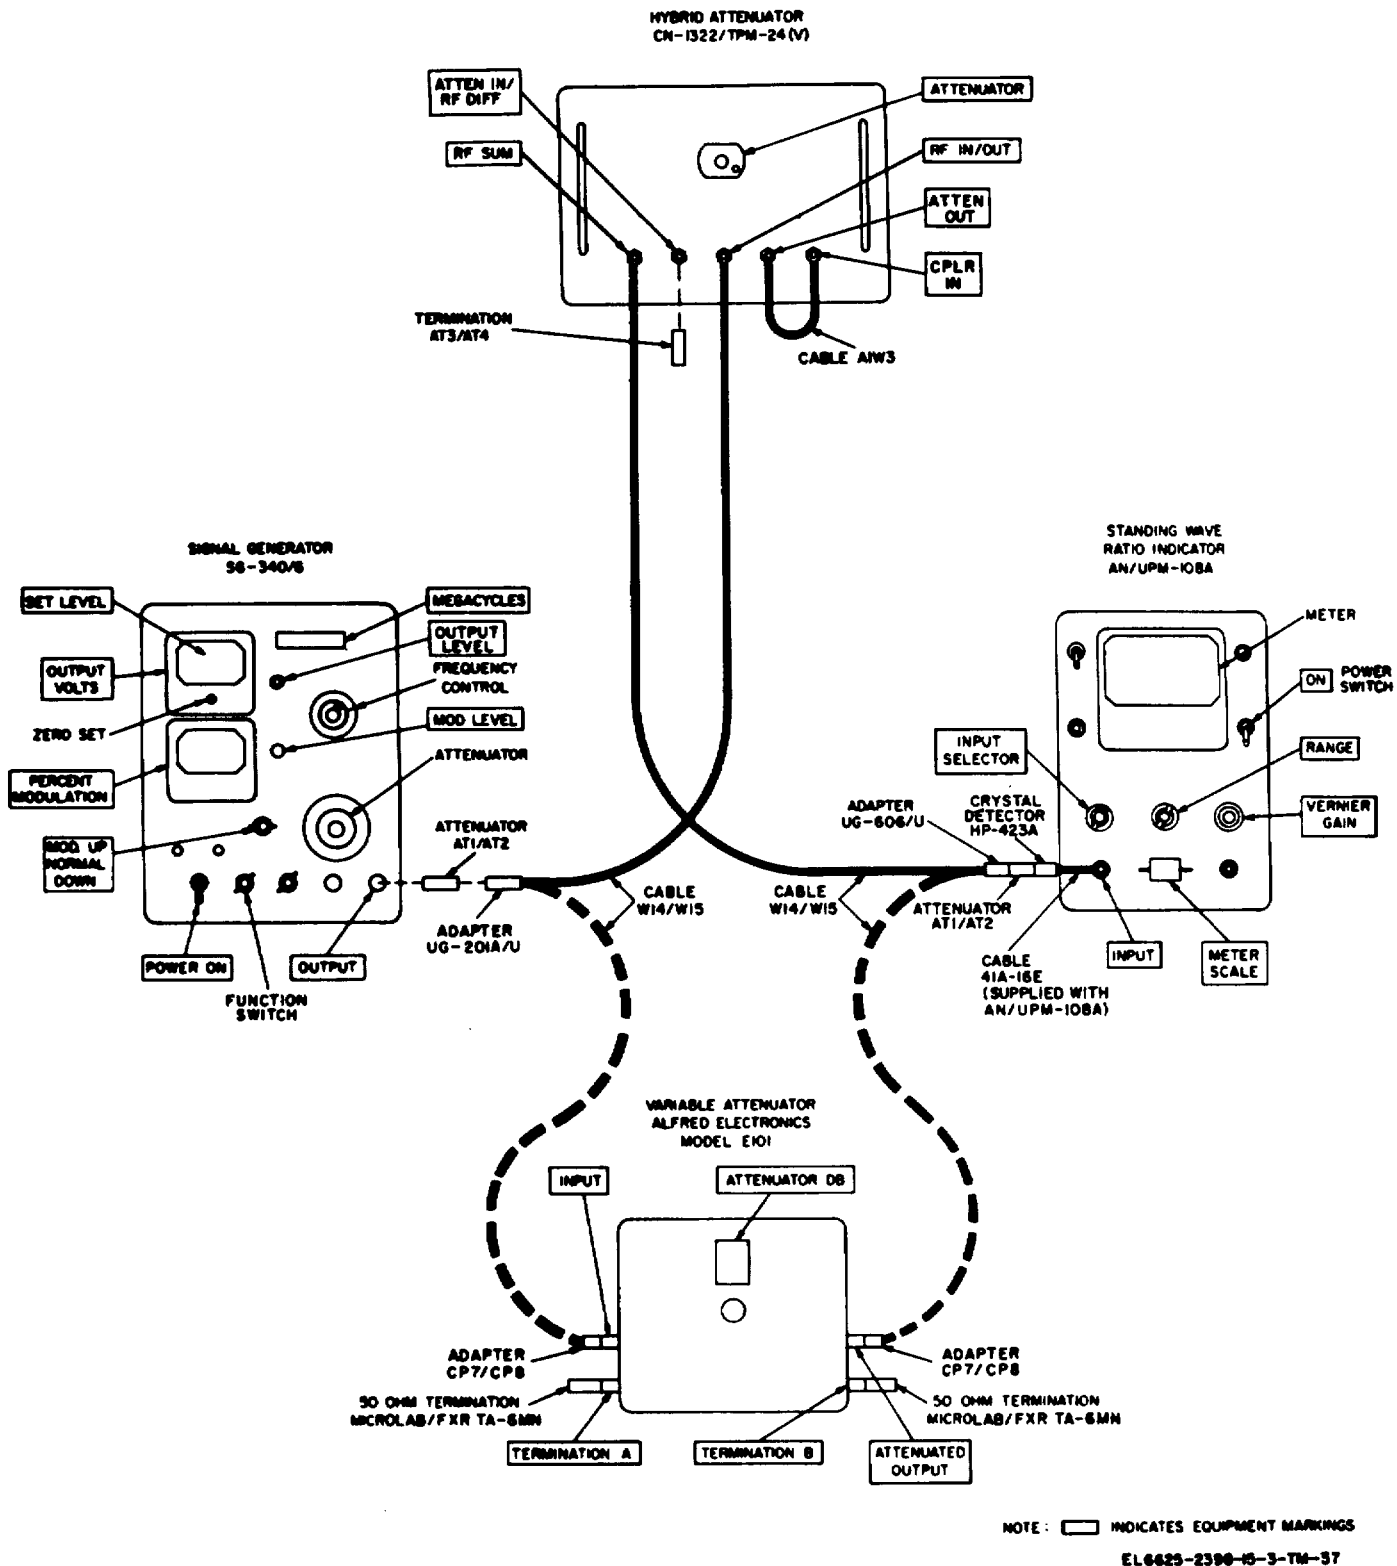

Figure 8-3. Hybrid attenuator sum channel (between RF IN/OUT and RF SUM connectors) insertion loss, test connections.
- (2) Variable Attenuator, Alfred Electronics Model E101.
- (3) Standing Wave Radio Indicator AN/UPM-108A.
- (4) Crystal Detector HP-423A.
- (5) Adapter UG-201A/U.
- (6) Adapters CP7/CP8 (2).
- (7) Fixed Attenuator AT1/AT2(2).
- (8) Termination AT3/AT4(1).
- (9) 50-ohm Terminations (2), Microlab/FXR TA-6MN.
- (10) Cables W14/W15 (2).
- (11) Adapter UG-606/U.
- b. *Test Connections and Conditions.* Initially connect the equipment as shown in solid lines, figure 8-3. Disconnect the hybrid attenuator and connect the variable attenuator (connections shown in broken lines) as directed in the procedure below.